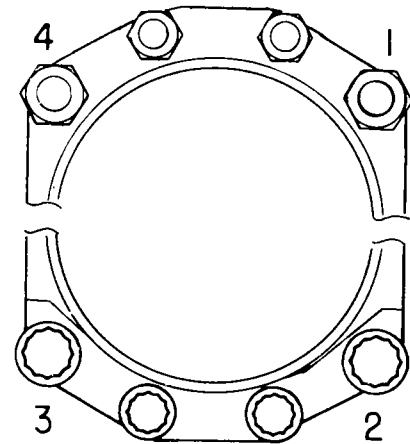
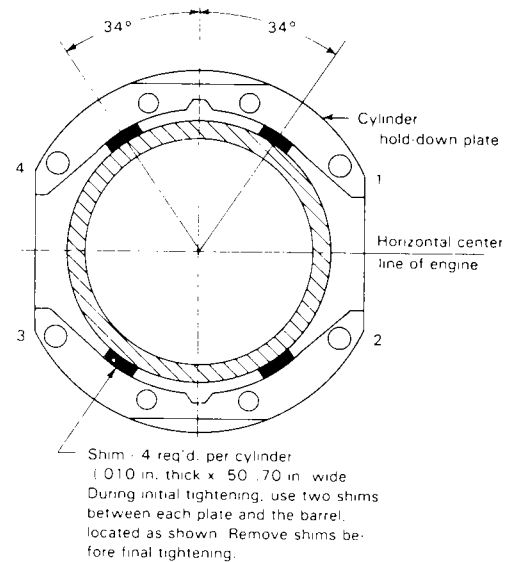

Figure 12. Sequence for Tightening Cylinder Basenuts
Figure 13. Location of Shims Between Cylinder Barrel and Hold-Down Plates
5. Install cylinders on the pads from which the nuts were removed in the previous step. Initially tighten cylinder hold-down nuts, to a torque of 300 in. lb. (25 ft. lb.) in the sequence shown in Fig. 12. On engines with cylinder hold-down plates, follow instructions in Figure 13.
8. Using the same sequence as described in paragraphs 5 and 6, and shown in Figure 12, check all 1/2-inch nuts for tightness by bringing torque to 600 in. lb. (25 ft. lb.). Be sure shims are removed before final torquing engines using cylinder hold-down plates. On O-235 engines using 7/16-inch thru studs, retorque to 420-in. lb. (35 ft. lb.). Where 3/8-inch nuts are used, do not tighten more than 300 inches (25 ft. lb.).
2. Install the cylinder on its mounting pad. If the engine employs hold-down plates, shim as shown in Figure 13. Initially torque the 1/2-inch thru studs to 300 in. lb. (25 ft. lb.) per sequence in Figure 12.
3. Then remove all shims from hold-down plates, if fitted, and retorque the 1/2-inch thru studs to 600 in. lb. (50 ft. lb.) per Figure 12.
For those O-235 model engines using 3/8 inch thru studs, do not exceed torque of 300 in. lb. (25 ft. lb.). And if 7/16-inch studs are used, torque initially to 300 in. lb. (25 ft. lb.); then, following the same sequence in Figure 12, apply final torque of 420 in. lb. (35 ft. lb.).
8. Using the same sequence as described in paragraphs 5 and 6, and shown in Figure 12, check all 1/2-inch nuts for tightness by bringing torque to 600 in. lb. (50 ft. lb.).